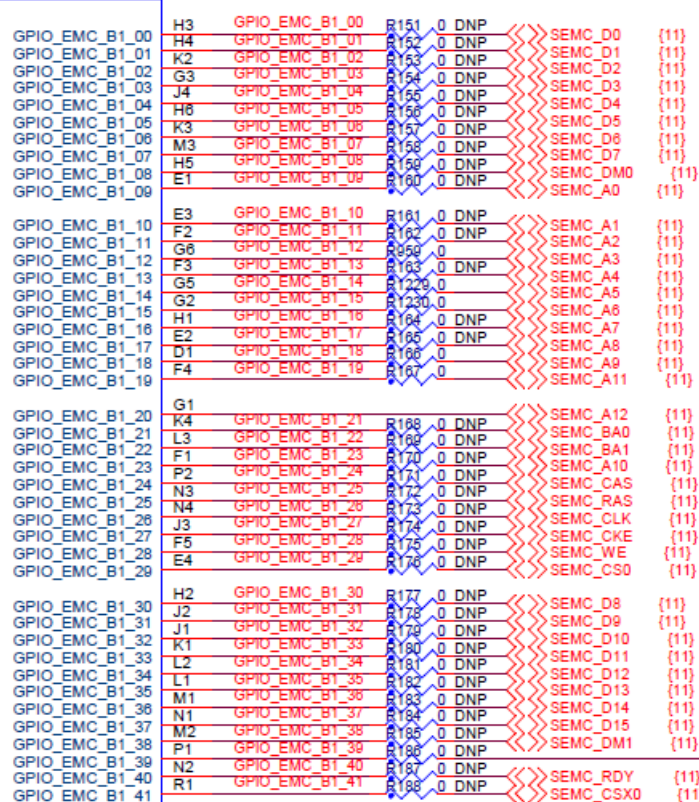

Figure 24. Step 2
2. Populate the resistors R151 to R165 and R168 to R188 with 0 Ω resistors as shown in Figure 24.